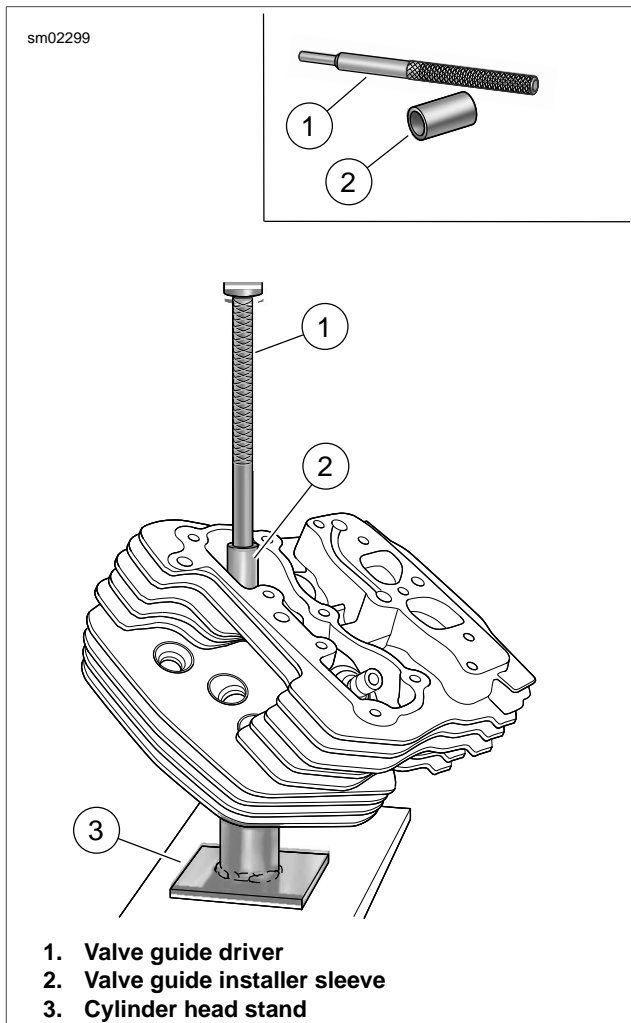

Figure 3-90. Install Valve Guide
- d. See Figure 3-90. Place installer sleeve (2) over valve guide and then insert tapered end of valve guide driver (1) into sleeve.